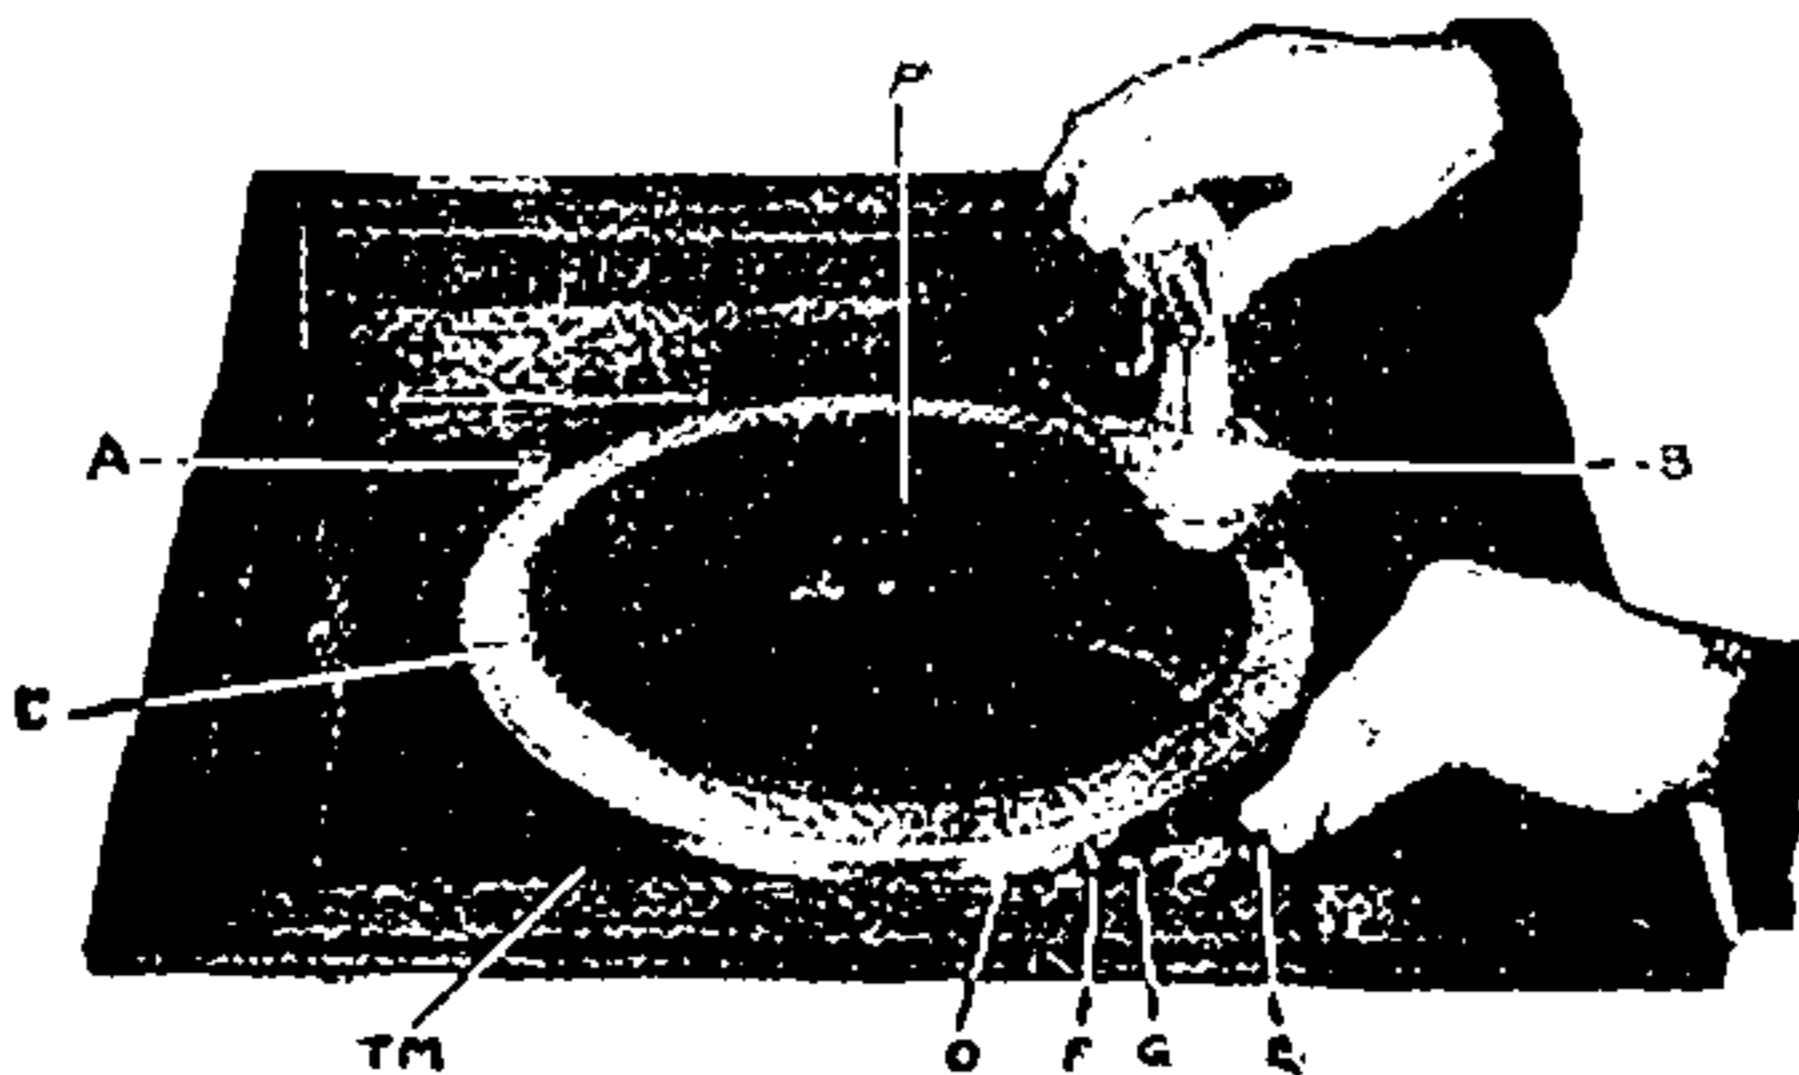

Fig. 5
1. To make tone soft, push the tone modulator slide (T. M. Fig. 5) toward the right.
NOTE—In attaching ball (H), regulate the extent to which wire enters the ball, so that the latter will just close the inner opening of the horn, without leaving undue slack in wire, when the tone modulator slide (T. M. Fig. 5) is to extreme right.
2. Turn speed adjusting knob (A) to right until it strikes the pin.
3. Swing Reproducer (B) to extreme right.
4. Place the RE-CREATION (C) on the turn-table.
5. Start phonograph by pushing starting lever (D) to left.
7. Lower Reproducer onto the RE-CREATION by raising the operating handle (E) to vertical position with the left hand, while guiding the Reproducer with the right hand as shown in Fig. 5.
9. When the selection is finished, raise the Reproducer by means of the operating handle and stop the phonograph by pushing brake lever (F) to left.
- (d) Loosen set screw (L) slightly; i. e., enough to allow the arm (M) to be turned at (N) by hand.
- (f) To make Safety Stop operate later, turn arm (M) slightly to the left; to make it operate earlier, turn arm slightly to the right.
- (g) Continue this adjustment until the phonograph stops with the diamond point of the Reproducer just at the outer circumference (P, Fig. 5) of the label on the RE-CREATION.
- (d) If the speed is found to be more than eighty (80) turns, it may be corrected by turning the speed adjusting knob (A, Fig. 5) slightly to the left until the correct speed is obtained.
- (e) In rare cases the speed may be found to be less than eighty (80) turns; if so, it may be corrected by turning the adjusting screw, which will be found in the speed adjusting lever beneath the top-plate. This screw is reached by removing the grill in the front of the cabinet and reaching into the horn compartment to the left of horn.